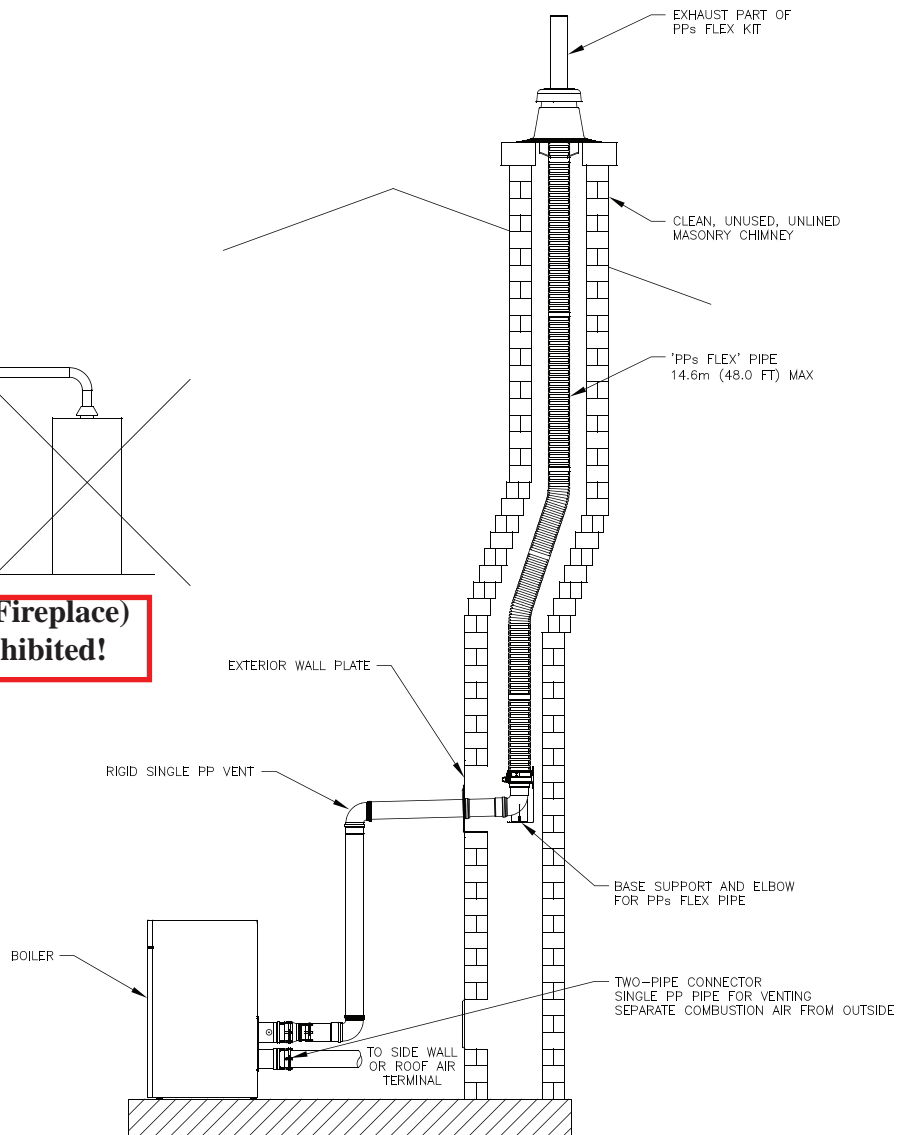

Figure 21: Flexible Vent in Masonry Chimney with Separate Combustion Air Intake
- Refer to Figure 21 for details of chimney chase installation.